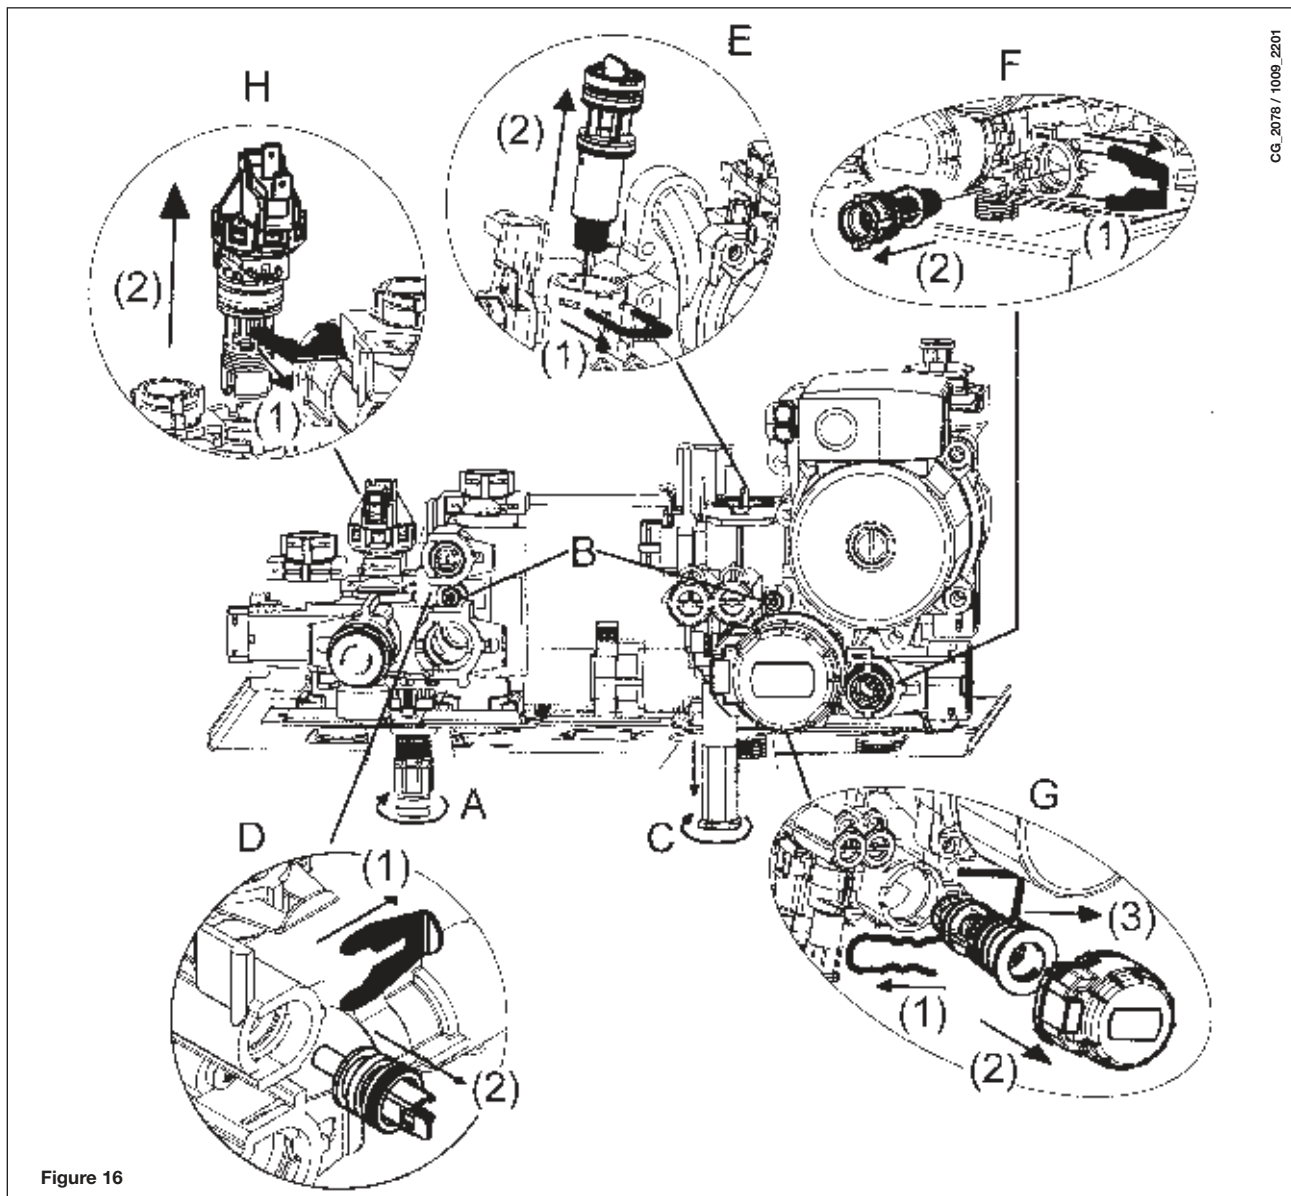

Figure 16
- drain the water in the CH circuit by opening tap A in figure 16.
- to extract the heating filter cartridge, first remove the 3-way valve motor (1-2G - figure 16);
- Remove the clip 1E in figure 16;
- Remove the filter (2E figure 16);